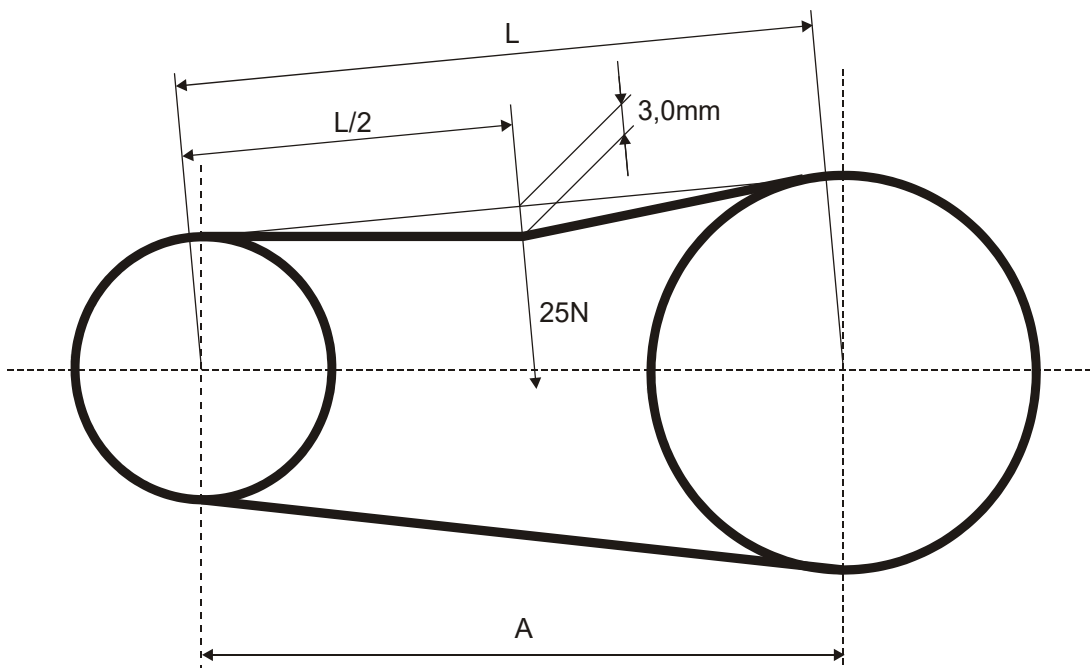

FIG. 3-2
See Figure 3-2.
3. Use a belt tension gauge to measure the belt tension. Place the gauge on the belt at the midpoint between the two pulleys. If the belt tension is less than 3.0mm with 25N of deflection (See Fig.3-2), tighten the belt as described below.